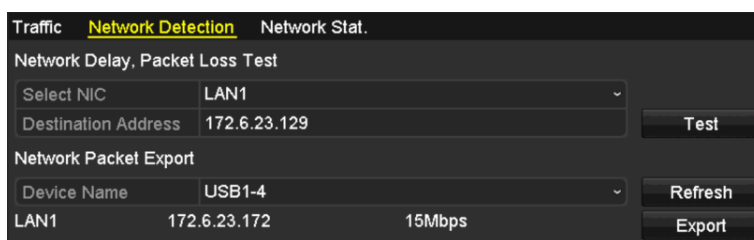

Figure 9-17 Export Network Packet
Step 3 Select the backup device from the dropdown list of Device Name, as shown in Figure 9-17.